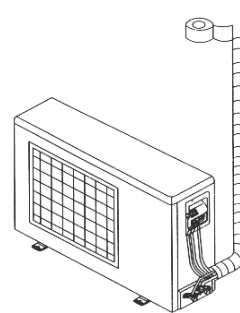

Fig.8.15
- (1) Use adhesive tape to bundle the refrigerant pipe and the cables together. To prevent condensate from overflowing out from the drainage pipe, separate the drainage pipe from the refrigerant pipe and the cables.
- (2) Use thermal insulation tape to wrap the pipes from the bottom of the outdoor unit until the upper end of the pipe where the pipe enters the wall. When wrapping thermal insulation tape, the later circle of tape must cover half of the front circle of tape (Refer to Fig. 8.15).
- (3) Wrapped pipe must be fixed to wall using pipe clamps.